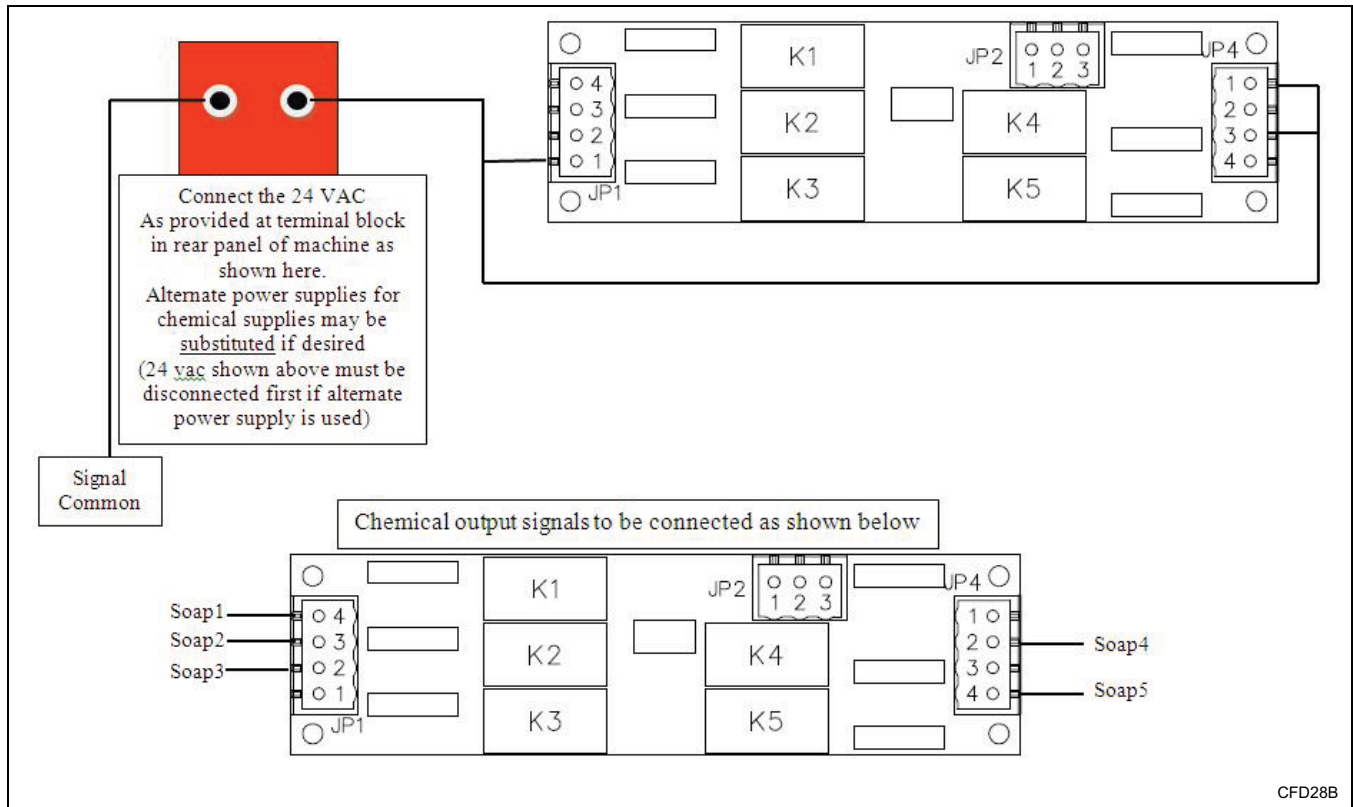

Figure 5
8. Refer to *Figure 5* for connection diagrams.